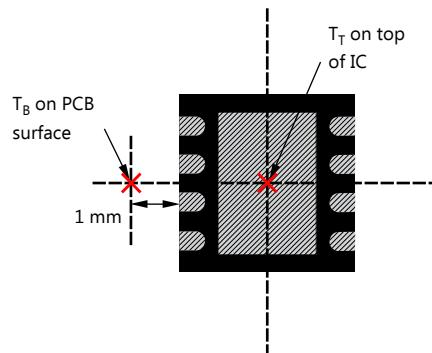

Figure 23. Measuring Points for T_T and T_B
- T_B is the PCB temperature measured 1 mm away from the device package on the PCB surface (as shown in Figure 23). (5)